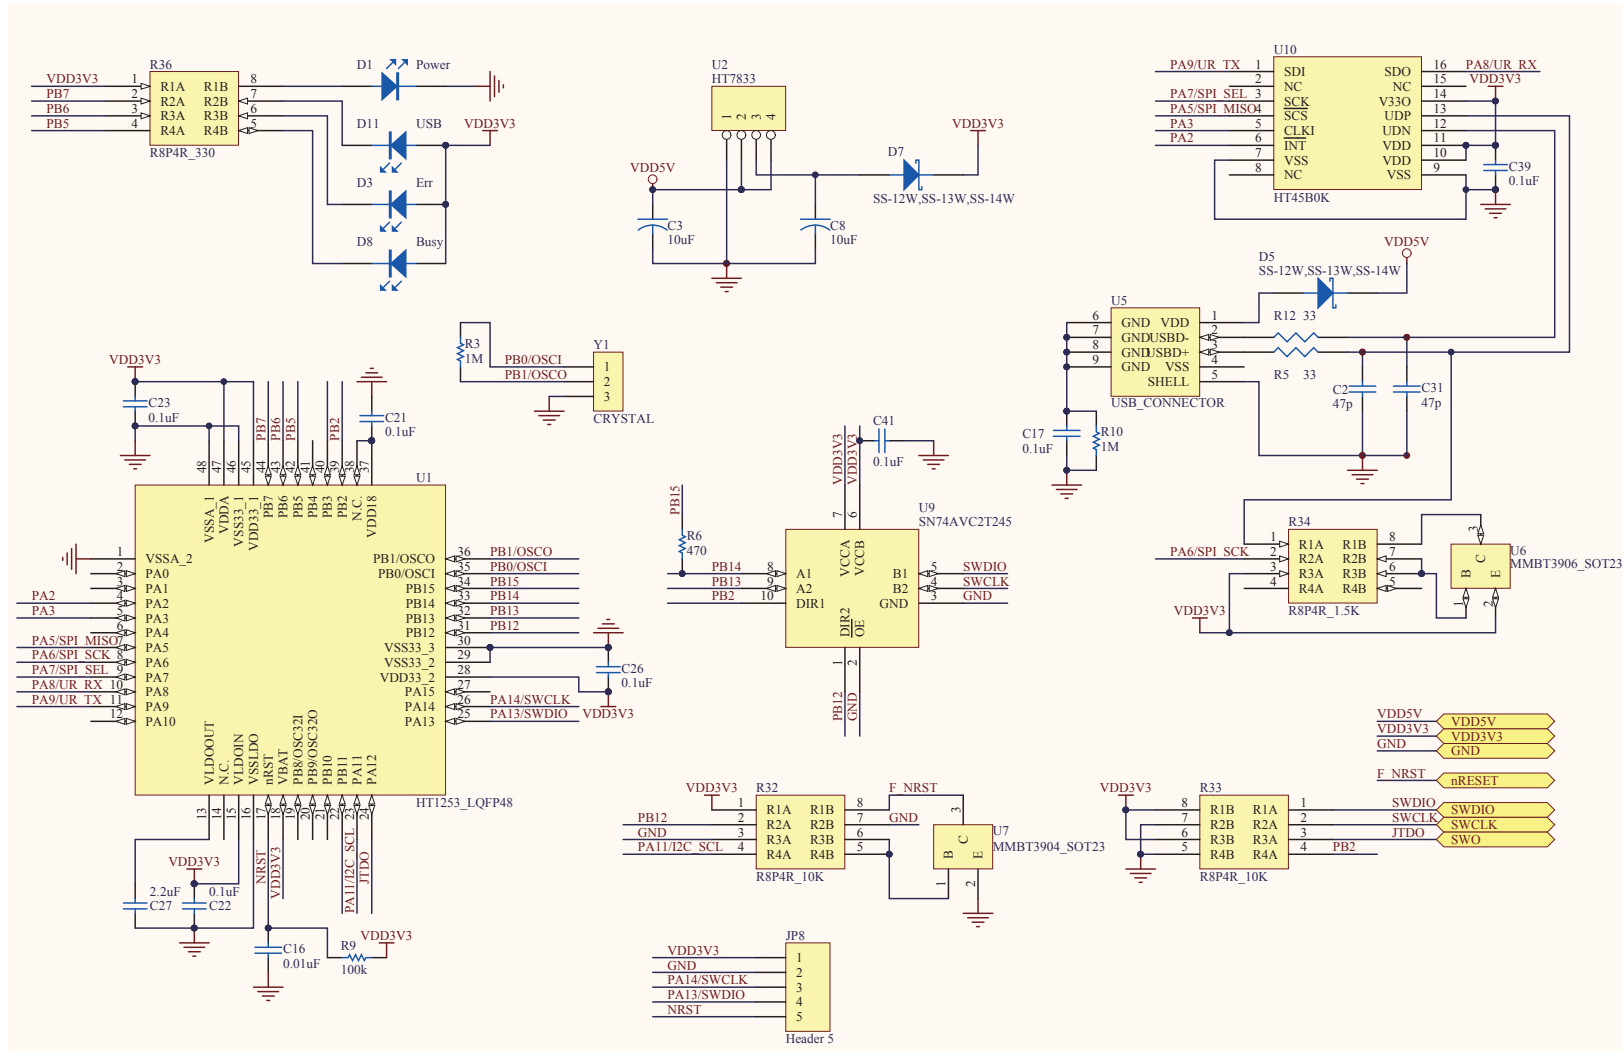

Figure 11. e-Link32 Lite
- Figure 11. Includes the e-Link32 Lite.